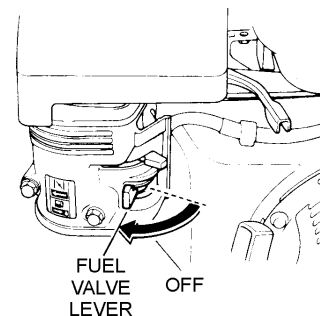

Figure 18. Fuel Valve Lever (OFF)
- Place the **fuel shut-off lever** (Figure 18) in the "OFF" position.